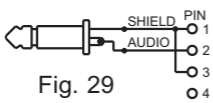

Fig. 29
5. Line-input (impedance 8K ATT 10dB), Fig. 29.